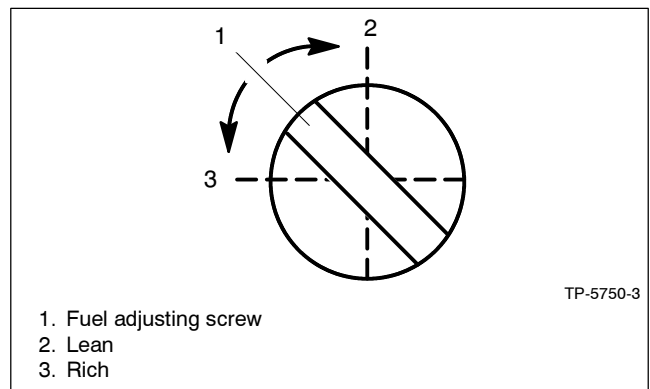

Figure 1-2 Fuel Mixer (Carburetor) Fuel Mixture Adjustment, Typical
- 4.1 Adjust the fuel metering valve (Figure 1-2) as required to obtain a 0.8–0.9 VDC oxygen sensor output. The oxygen sensor output reads high when the mixture is richer and close to zero volts when the mixture is leaner.